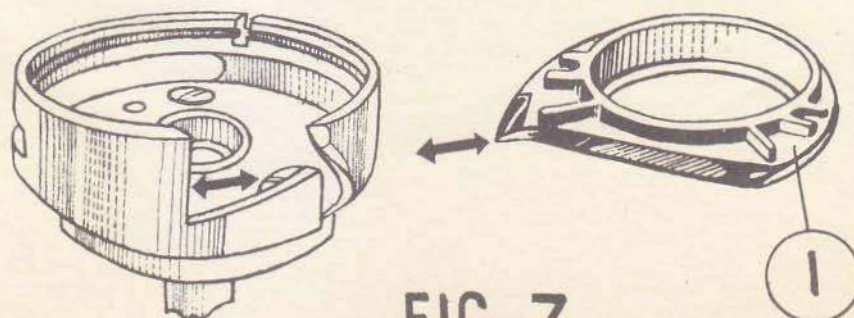

FIG. 7
6. TIMING OF SHUTTLE HOOK IN RELATION TO NEEDLE BAR (Fig. 7, 8, 9)